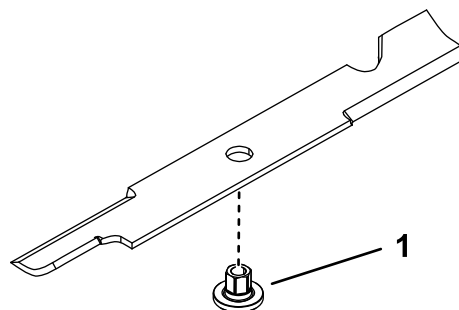

Figure 73
1. Install the bushing through the blade with the bushing flange on the bottom (grass) side of the blade (Figure 73).